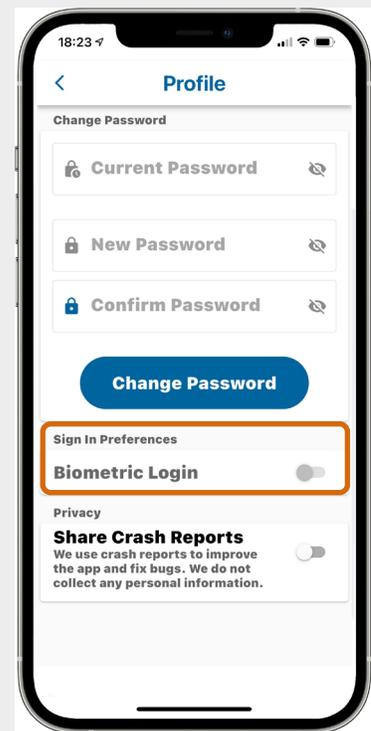

Fig. 25 – Profile screen with Biometric Login toggled off
2. On the **Profile** screen, navigate to the **Sign In Preferences** section and toggle the **Biometric Login** option off, as shown in Fig. 25.